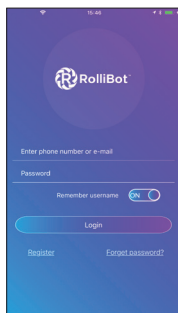

Fig. 1
Step 2. Register for an account and return to the app (fig. 1).